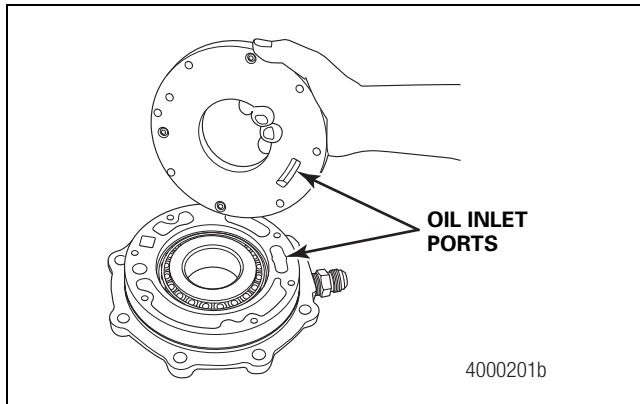

Figure 4.14
7. Mark the position of the pump to the cage for reassembly. Figure 4.14.